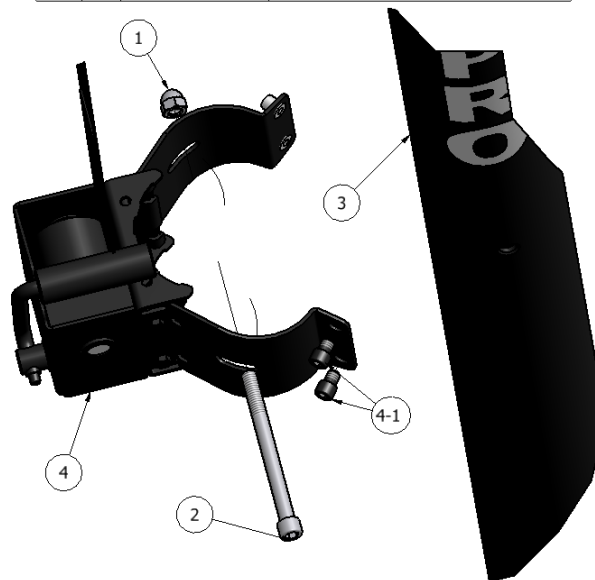

Figure 6-1: Winch installation.
3. Install winch to one upright using the socket cap screws (Figure 6-1, item 2).
4. Fasten the clamp together using the cap screws supplied with the winch (Figure 6-1, item 4-1).